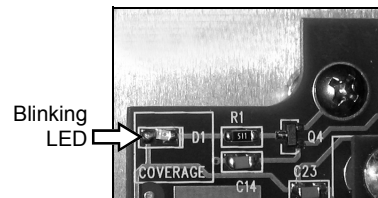

Fig. 2. Testing Signal Strength
- Connect power to (-) & (+) screw terminals (see Fig. 2).